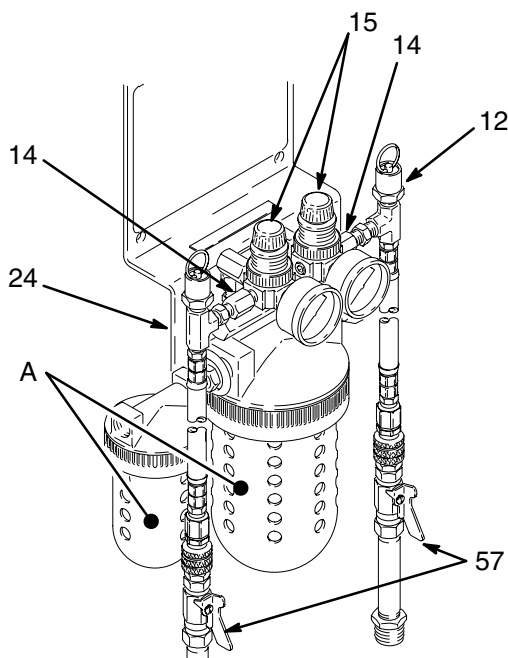

Fig. 16
1. Set both air regulators (15) to the lowest pressure needed to provide adequate dry air to the supply drums. A setting of 2 psi (0.14 bar) normally provides enough dry air to the drums. See Fig. 16.
2. Open the drum shutoff valves (57). See Fig. 16.
3. To lower the pressure on the gauge, turn the regulator knob counterclockwise and pull up on the pressure relief valve ring (12) until the pressure on
the gauge is just below the desired setpoint. Release the ring and then turn the knob to the desired pressure. See Fig. 16.
4. Check the pressure relief valves daily. To check, close the drum shutoff valves (57) and uncouple the air hoses (58) from the pin fitting. Increase the air pressure slowly. If pressure is not relieved by 5.5 psi (0.38 bar), replace the valve. See Fig. 16.